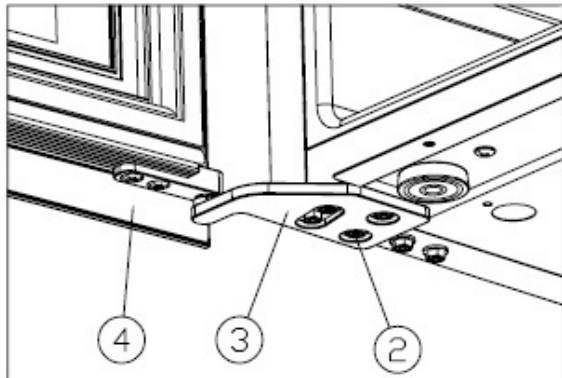

Figure 5
- ✧ Install the right upper hinge at the lower left side ③ and tighten the M5*16 screws②.[Figure 5]